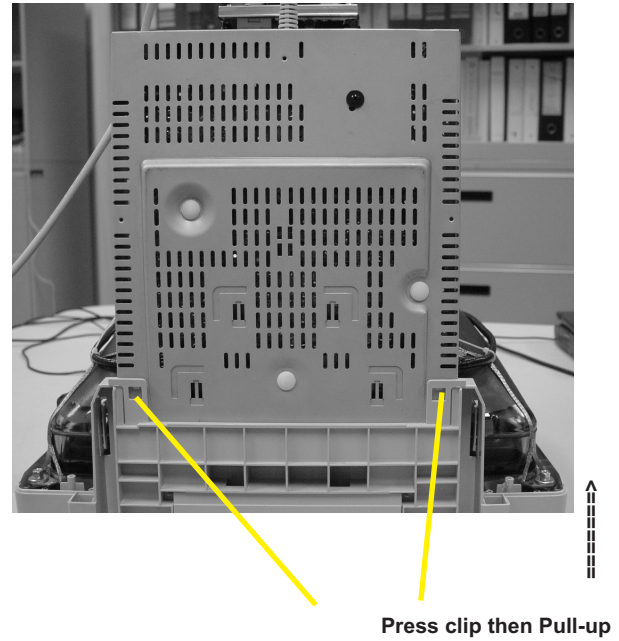
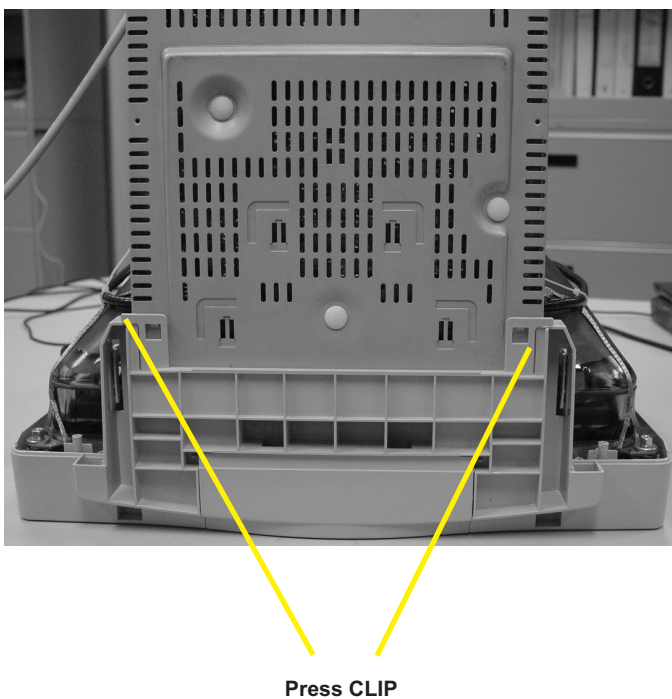

Fig. 7
Fig. 6
- Pull the bottom tray on press right and left side clip from fig. 6 to fig. 7.